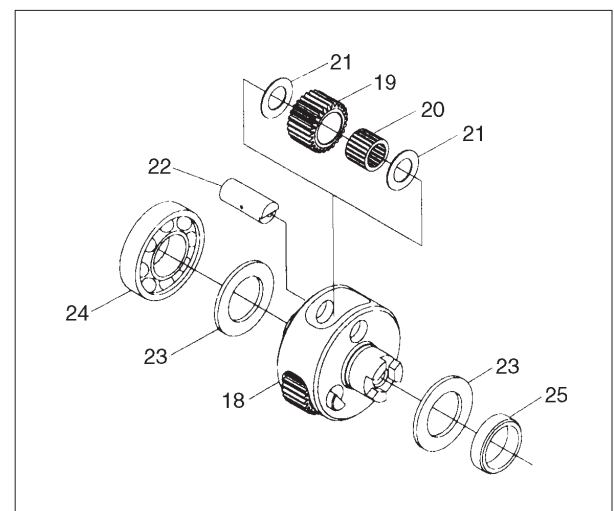

Fig 4.
13. Remove the planet gear frame assembly from the intermediate gear case. Using a sleeve that contacts the outer race of the front gear frame bearing (17), press the planet gear frame shaft seal (16) and the front gear frame bearing (17) from the front end and out of the rear of the intermediate gear case.
14. Remove the rear gear frame bearing (24) from the planet gear frame (18), using a bearing puller and remove the gear shaft retaining washer (23), See fig. 4.